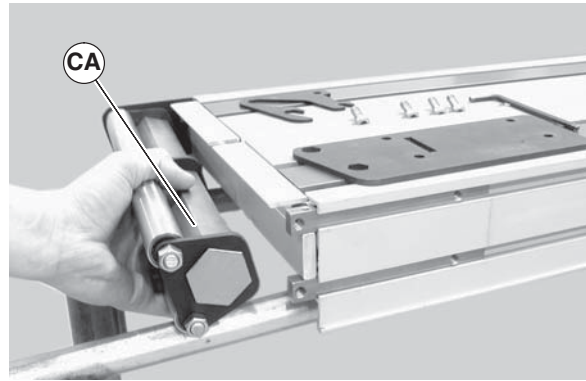

Figure 57
4. Slide the transfer tail pulley assembly (Figure 57, item CA) out of the headplate on the opposite side.